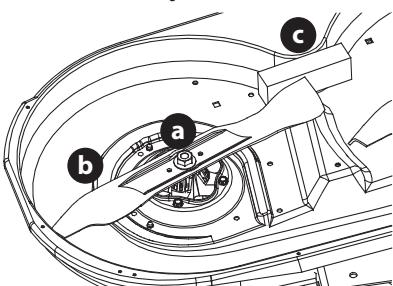

Figure 51
2. Place a block of wood (c) between the deck housing and the cutting edge of the blade (b) to help in breaking loose the hex nut (a) securing the blade (b). Use a 15/16 inch wrench to loosen the hex nut (a) (Figure 51).